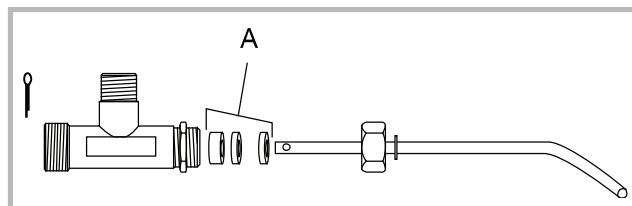

Figure 15 - The joint of the de-scaling lever
- **At least once a year / End of heating season** : Clean or replace the oil filters of the oil supply line (# 5, fig. 14, p. 8) and to change the joint of the de-scaling lever (rep. A, fig. 15, code 142889) by a professional installer.